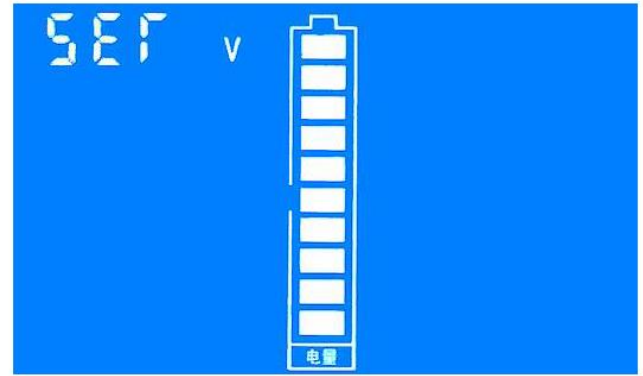

Figure 2: the voltage setting interface
- II. Press and hold the button until the display screen changes to Figure 2 below. Release the button if it has changed.
- II. Press and hold the button until the display screen changes to Figure 2 above. Release the button if it has changed.